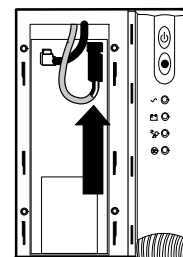

Figure 5 Connecting the Internal Battery Connector
- 5 Connect the red wire to the positive (+) battery connector (see Figure 5).